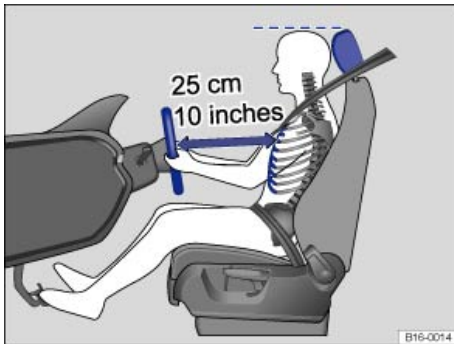
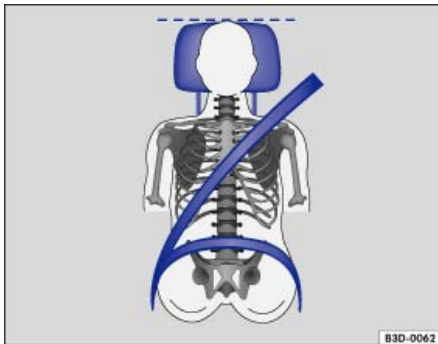

Fig. 34 The driver should never sit closer than 10 inches (25 cm) of the steering wheel.
Fig. 35 Proper safety belt positioning and head restraint adjustment.
- Adjust head restraints so that the upper edge of the head restraint is at least at eye level or higher. Position the back of your head as close as possible to the head restraint ⇒ fig. 34 and ⇒ fig. 35.
- Adjust the steering wheel so that there are at least 10 inches (25 cm) between the steering wheel and your breast bone ⇒ fig. 34. When adjusting the proper distance to the steering wheel, grasp the top of the steering wheel with your elbows slightly bent.